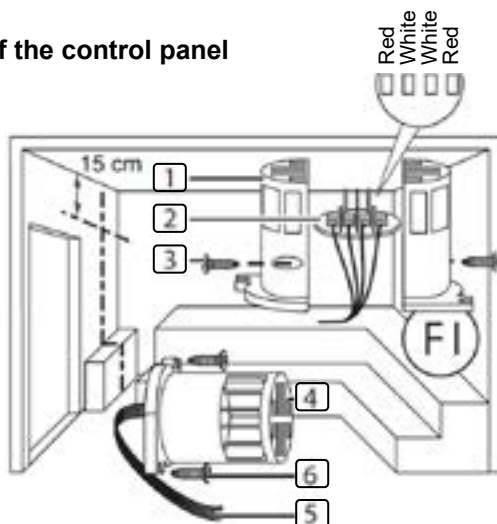
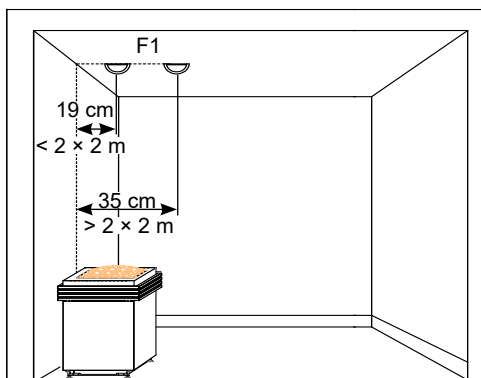

Fig. 6: Installing the heater sensor for wall heaters
Fig. 7: Installing the heater sensor for free-standing and tower heaters
Note the following points when installing the heater sensor **Fig. 6** and **Fig. 7**:
- The heater sensor must be installed on the rear of the heater, above the middle of the wall heater. A distance of about 15 cm from the ceiling of the cabin must be maintained. For free-standing and tower heaters, please see **Fig. 7 on page 16**.
To install the heater sensor, perform the following steps (see **Fig. 6**):
3. Connect the four connections for the heater sensor cable 5 in accordance with the **Fig. 6 on page 16**.